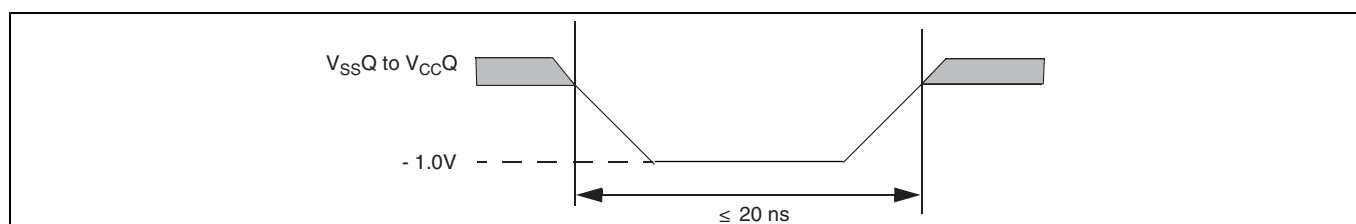
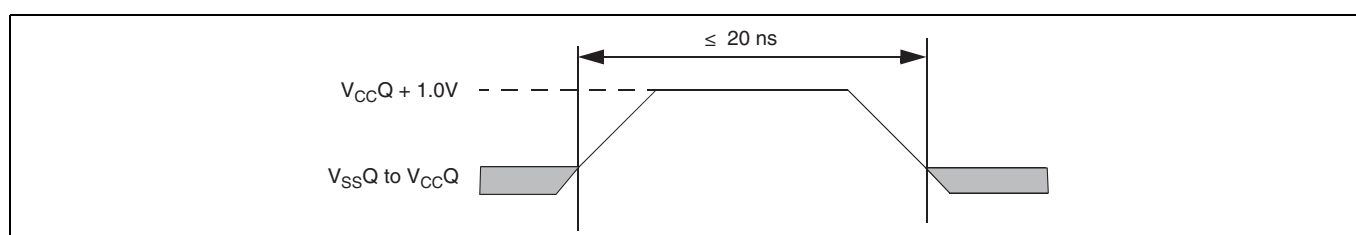

Figure 27 Maximum negative overshoot waveform
Figure 28 Maximum positive overshoot waveform
30. Minimum DC voltage on input or I/O signal is -1.0 V. During voltage transitions, input or I/O signals may undershoot VSS to -1.0V for periods of up to 20 ns. See Figure 27. Maximum DC voltage on input or I/O signals is VCC +1.0 V. During voltage transitions, input or I/O signals may overshoot to VCC +1.0 V for periods up to 20 ns. See Figure 28.